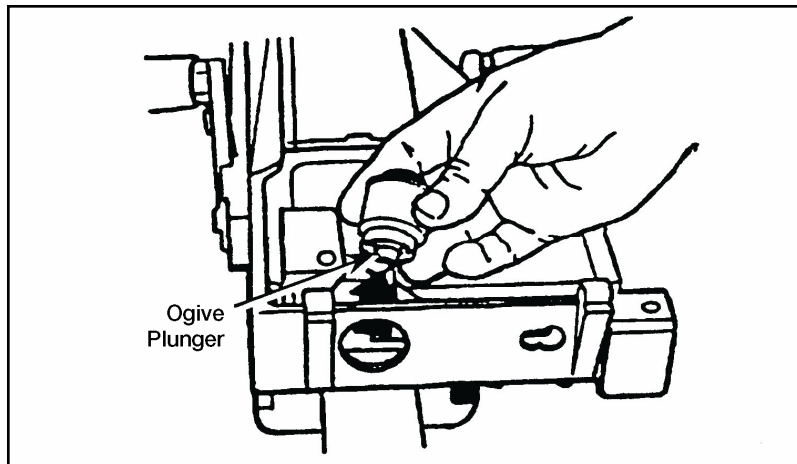

Figure 071-030-0001-11. Removal of the ogive plunger
i. Remove the round positioning block (figure 071-030-0001-12).